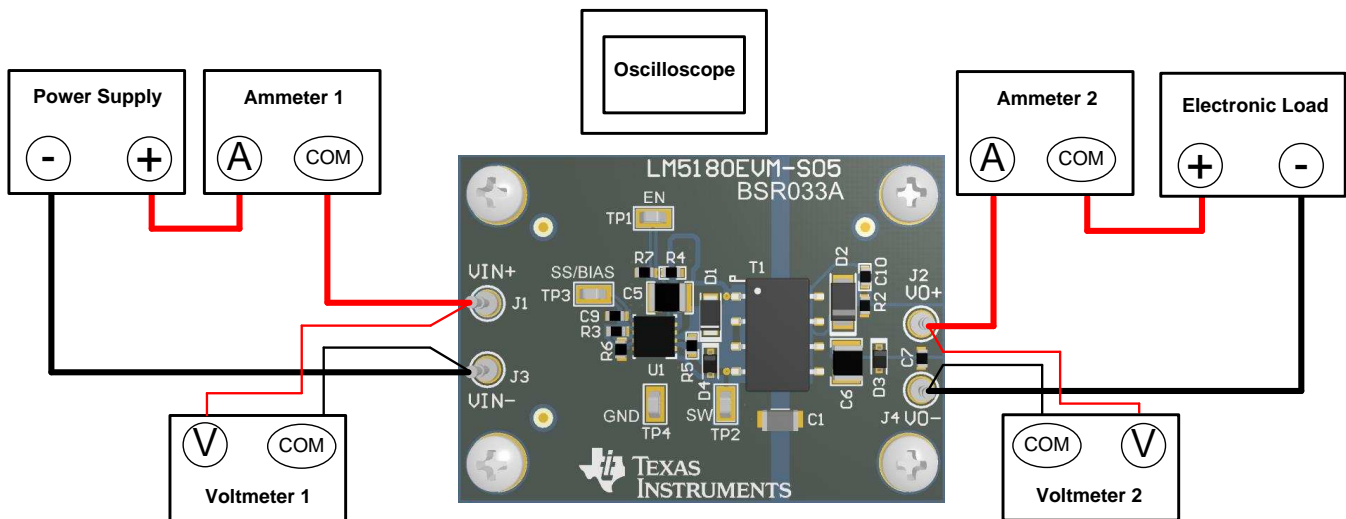

Figure 3. EVM Test Setup
Referencing the EVM connections described in Table 2, the recommended test setup to evaluate the LM5180EVM-S05 is shown in Figure 3. Working at an ESD-protected workstation, make sure that any wrist straps, boot straps, or mats are connected and referencing the user to earth ground before power is applied to the EVM.
- Prior to connecting the DC input source, set the current limit of the input supply to 0.1 A maximum. Ensure the input source is initially set to 0 V and connected to the VIN+ and VIN– connection points as shown in Figure 3. An additional input bulk capacitor is recommended to provide damping if long input lines are used.